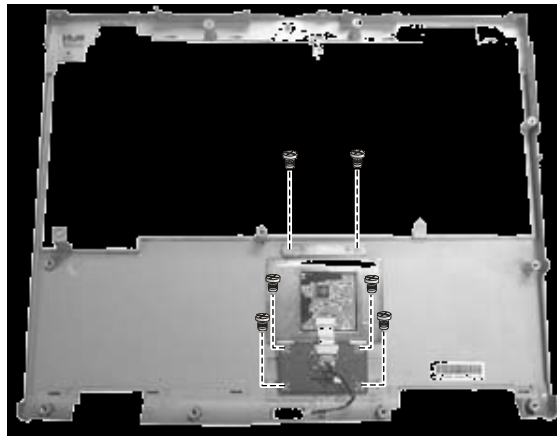

Figure 2-25 Remove the touch pad
2. Remove the six screws to lift up the touch pad holder and touch pad panel. (Figure 2-25)